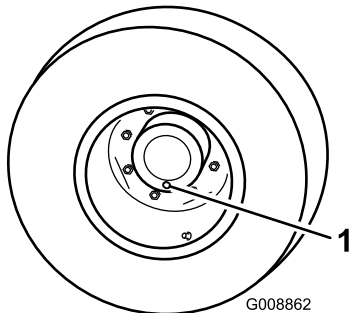

Figure 81
1. With a wheel positioned so that a check plug is at the lowest (6 o'clock) position (Figure 81), park the machine on a level surface, engage the parking brake, lower the mower decks, shut off the engine, and remove the key.